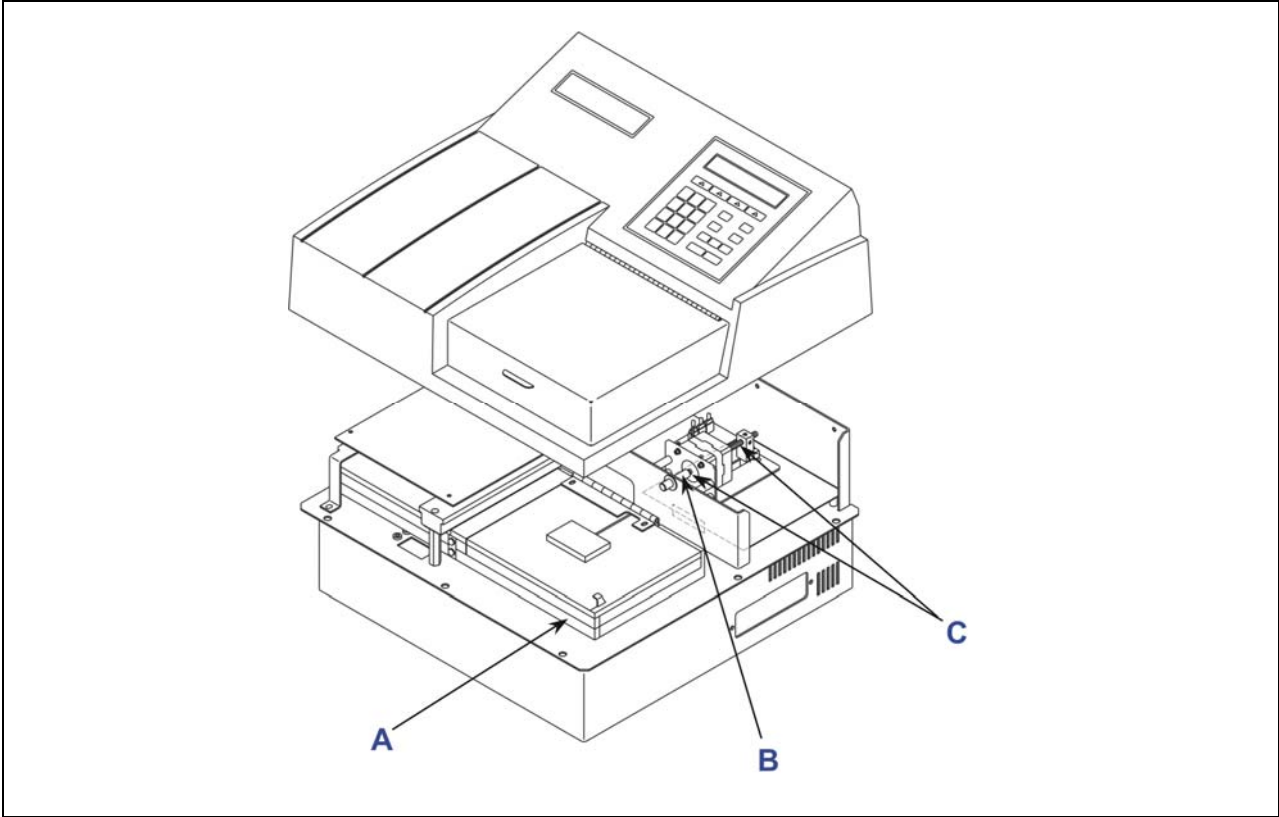
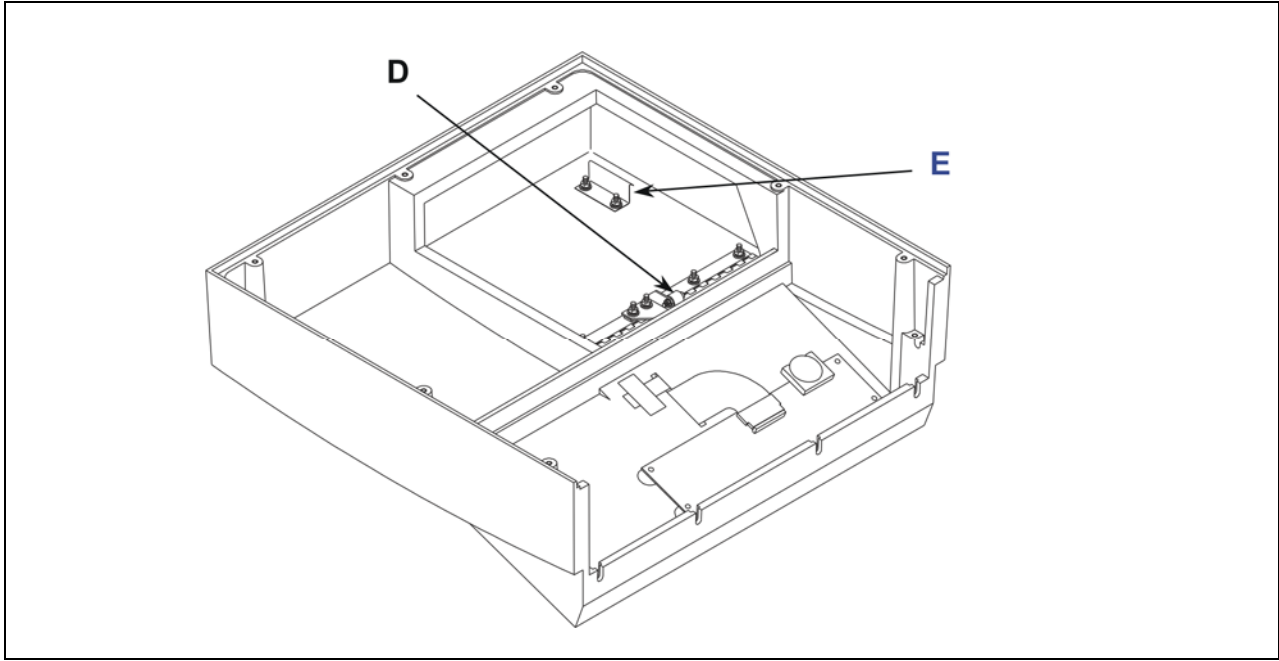

Figure 8a: Location of bracket, motor shaft, and main PCB/motor assembly
Figure 8b: Roller surface and hook-in bracket
2. Lubricate the components as shown in *Figure 8a* and *Figure 8b* every six months, or after 10,000 cycles, according to the instructions in the table below.